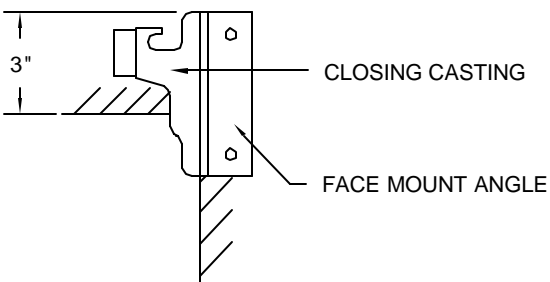

Fig. 1-3
1. Mount the RH-30-MX pipe casting under the lintel (closing side of opening). If the gate is to be face mounted, position the top of the RH-30-MX pipe casting 3" above the bottom of the lintel (Fig. 1-3).